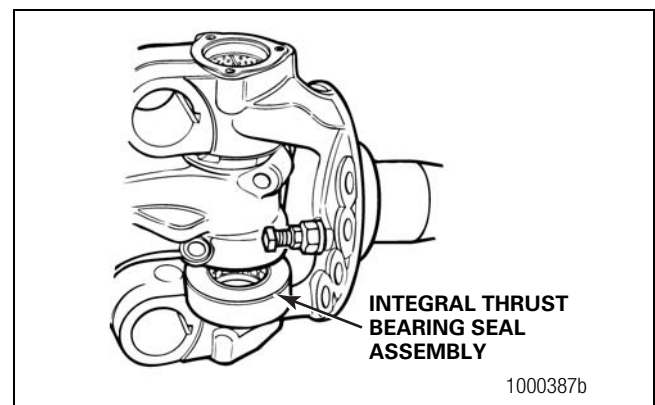

Figure 6.15
3. Install the seal and thrust bearing assembly on the inner knuckle. The seal must face UPWARD toward the beam. The top inner diameter will contact the bottom of the axle beam. Figure 6.15.